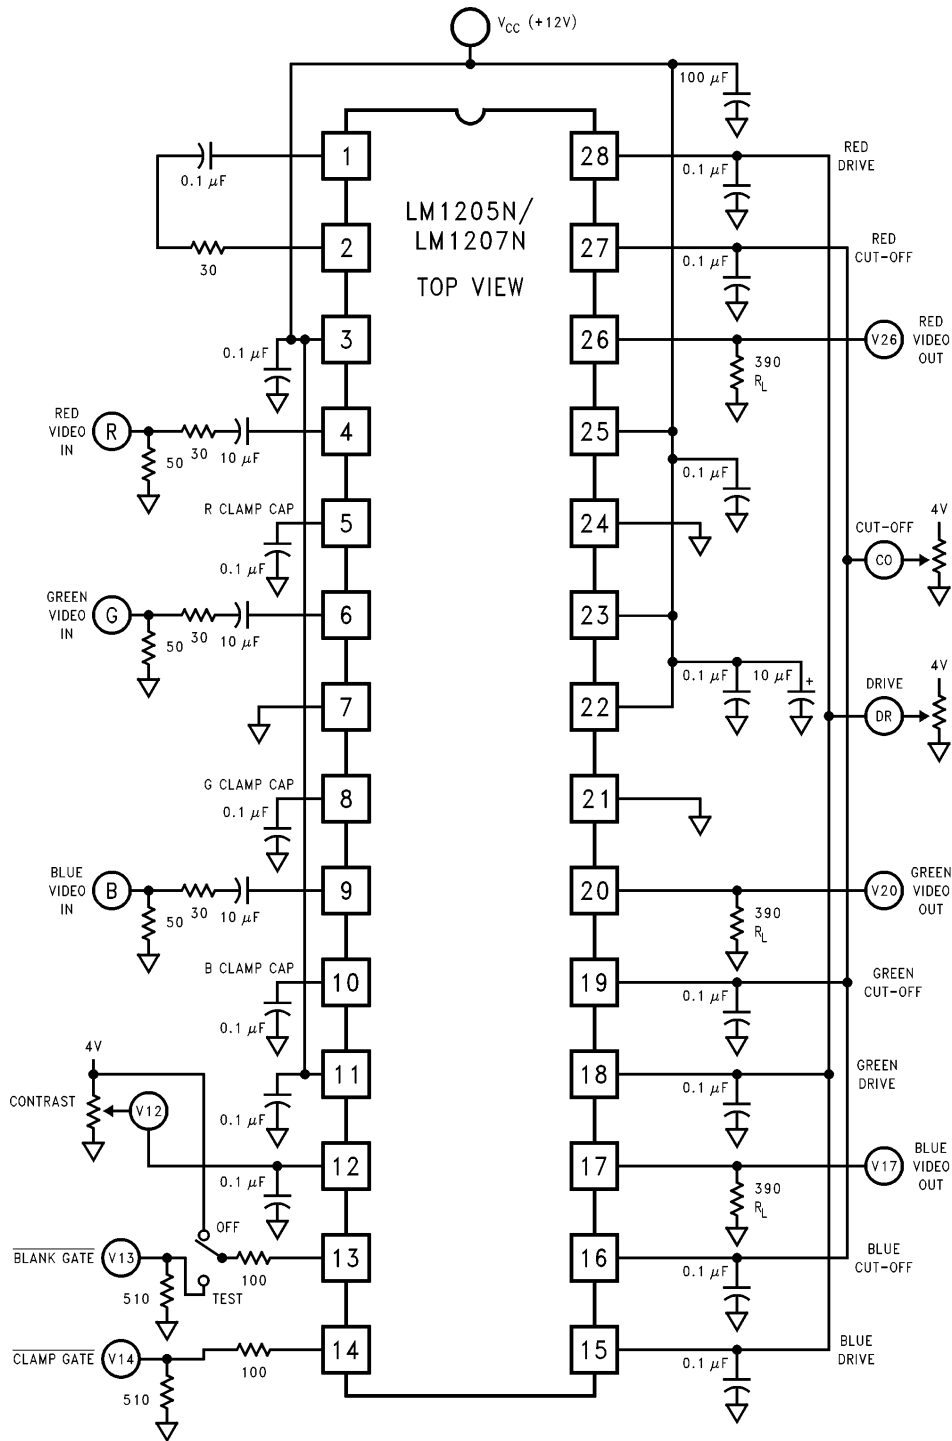

FIGURE 2. LM1205N/LM1207N DC Test Circuit
**DC Electrical Characteristics** See DC Test Circuit (Figure 2),  $T_A = 25^\circ\text{C}$ ;  $V_{CC1} = V_{CC2} = 12V$ .  $V_{I2} = 4V$ ;  $V_{I4} = 0V$ ;  $V_{cut-off} = 1.0V$ ;  $V_{I3} = 4V$ ;  $V_{drive} = 4V$  unless otherwise stated.
**Note 7:** The supply current specified is the quiescent current for  $V_{CC1}$  and  $V_{CC2}$  with  $R_L = \infty$ , see Figure 2's test circuit. The supply current for  $V_{CC2}$  (pin 23) also depends on the output load. With video output at 1V DC, the additional current through  $V_{CC2}$  is 8 mA for Figure 2's test circuit.